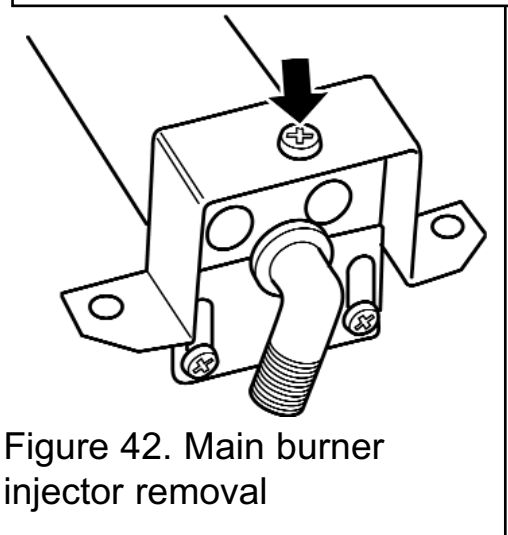

Figure 42. Main burner injector removal
(See figure 42).
2. Remove the burner clamping screw (See figure 42)